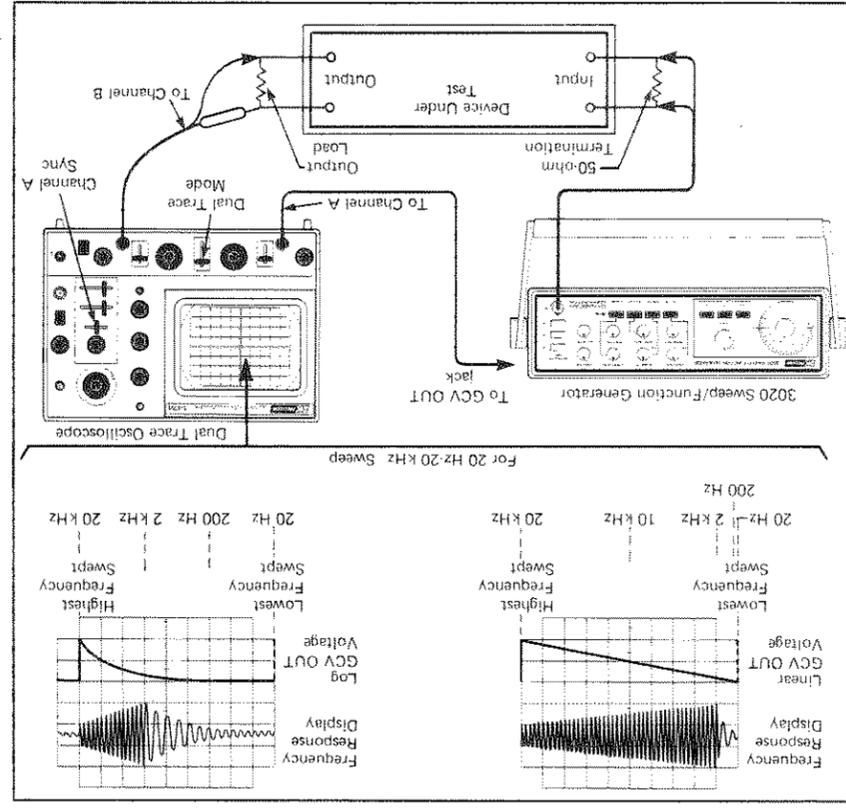

Fig. 27. Frequency response measurement, linear/log display method.
If a dual-trace oscilloscope is used, use the channel A attenuator/gain controls to reduce the amplitude of the sweep voltage waveform to about two vertical divisions and position the channel A trace toward the bottom of the screen as shown in Fig. 27. Sync the oscilloscope to the channel A signal. Connect the channel B input of the oscilloscope to measure the voltage across the output load of the circuit being tested.
13. Readjust oscilloscope sweep speed to spread one cycle of the waveform over some convenient number of horizontal divisions. Each division can later serve as a frequency marker if the corresponding frequency is calculated. For example, a linear display may be spread over 10 horizontal divisions. Since the lowest and highest frequencies are already known, the difference may be divided into 10 equal increments. The example in Fig. 27 shows a 20 Hz to 20 kHz linear sweep display spread over 10 divisions. The difference between the lowest and highest frequency is almost 20 kHz. Therefore, starting from the left of the display at 20 Hz, each division equals a frequency increase of 2 kHz. When log display is used, frequency increases at a logarithmic rate and markers between the lowest and highest frequencies must be scaled logarithmically. The example in Fig. 27 shows a 1000:1 log sweep display spread over nine horizontal divisions. Each three divisions equals a decade of frequency change; that is, after three divisions, the frequency has increased one decade or 10:1 (from 20 Hz to 200 Hz), after six divisions the frequency has increased another decade or 100:1 (to 2 kHz), and after nine divisions the frequency has increased another decade or 1000:1 (to 20 kHz).
Fig. 27 shows that LIN sweep gives more resolution of high frequency response and LOG sweep gives more resolution of low frequency response. Sometimes it is desirable to examine the frequency response characteristics of a device using both LIN and LOG sweep. Notice that this method also provides the conventional left-to-right sweep pattern to which most technicians are accustomed.
The following procedures, along with Fig. 27, describes the typical set-up and technique for linear/log frequency response measurements.